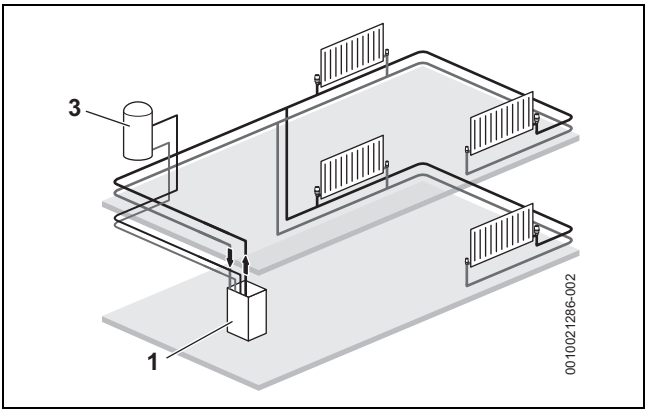

Fig. 9 Example layout - Internal diverter valve kit
In all cases the cylinder manufacturer must be contacted for confirmation their product is suitable for the installation layout shown in figure 9.
- The general layout (figure 9) can be used for unvented cylinders by utilising the high limit thermal cut-out of the cylinder dual-thermostat to interrupt the permanent live to the appliance, preventing any heat being produced by the appliance.